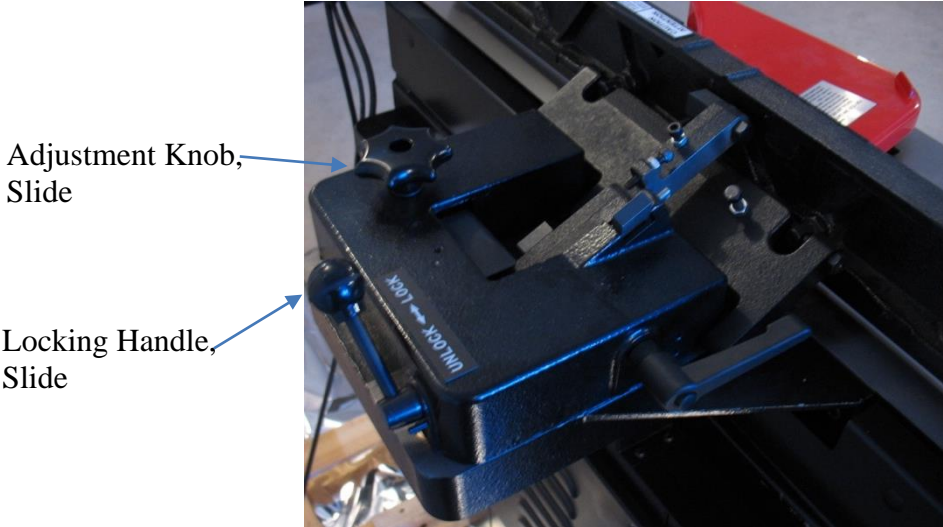

Figure 27: Fence Slide Components
3. The fence can be adjusted to use all or a portion of the cutterhead. To adjust, loosen the Locking Handle (Fig. 27) and turn the Adjustment Knob to position fence in desired location.